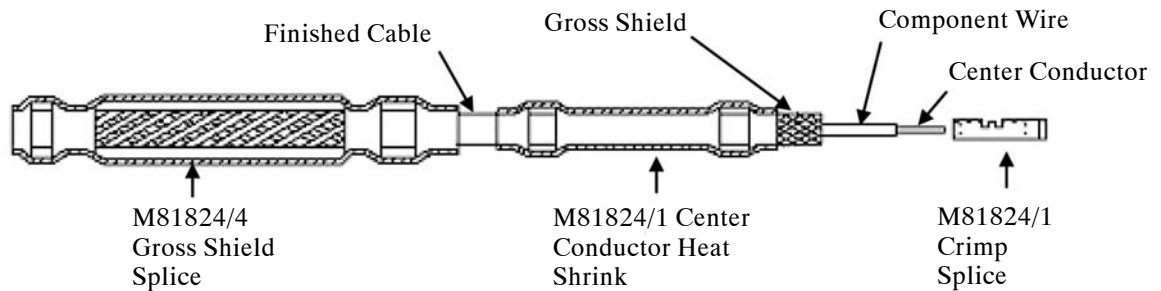

Figure 9. M81824/5 Splice Kit on Finished Cable
(1) Using Table 2, select the correct Shielded Cable Splice for the applicable type of Filter Line Wire.
(2) Using Figure 9, assemble the splice kit as shown. Refer to WP 014 00 for inline splice (M81824/1) crimping procedures and assembly. Center the gross shield splice (M81824/4) over the inline splice (M81824/1) and shrink/recover using heat gun as per WP 012 00.